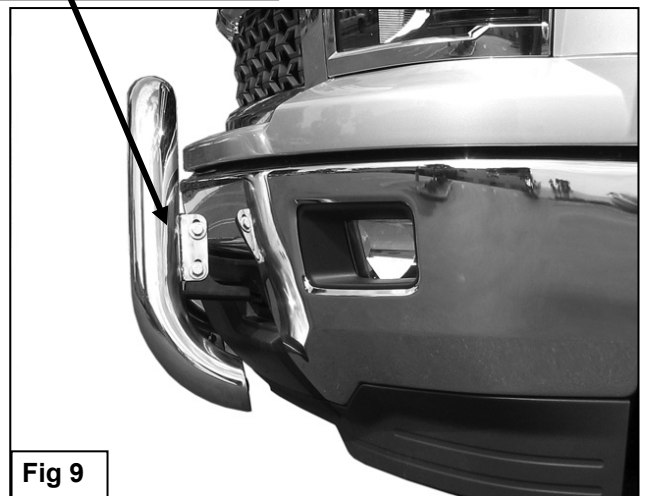

Fig 9
7. With assistance, hold the Bull Bar up in position on the outside of the Mounting Brackets. Bolt the Bull Bar to the Brackets with (4) 10mm x 30mm Hex Bolts, (8) 10mm Flat Washers and (4) 10mm Nylon Lock Nuts, (**Figure 9**). Do not tighten hardware at this time.